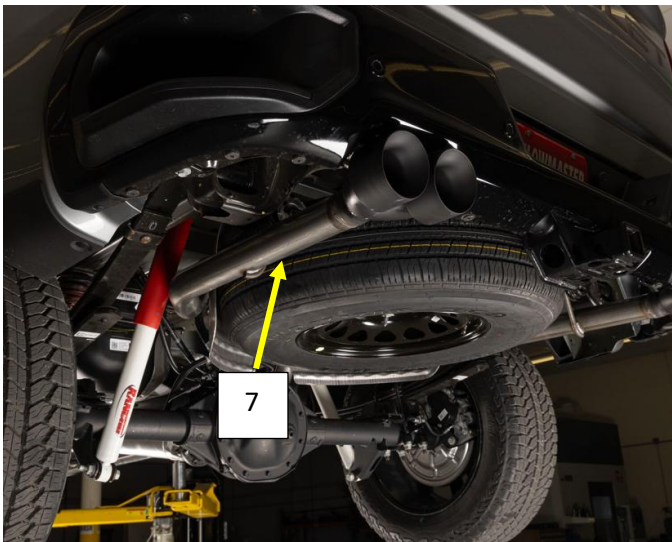

**Figure.16**
22. Install a 2.5" band clamp (9) onto the expanded and notched end of the Right rear tail pipe (6) with the bolt on the bottom of the pipe and nut facing out. **Fig.16**
25. Install a 2.5" band clamp (9) onto the expanded and notched end of the Left rear tail pipe (7) with the bolt on the bottom of the pipe and nut facing out. **Fig.16**